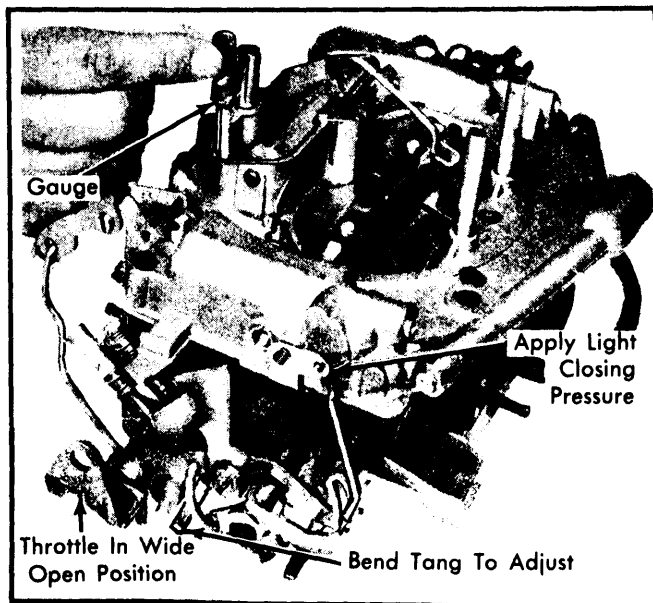

Fig. 10 Adjusting Choke Unloader
- 1) Open throttle valves wide open. Apply light closing pressure on fast idle cam lever to close choke valve. See Fig. 10.